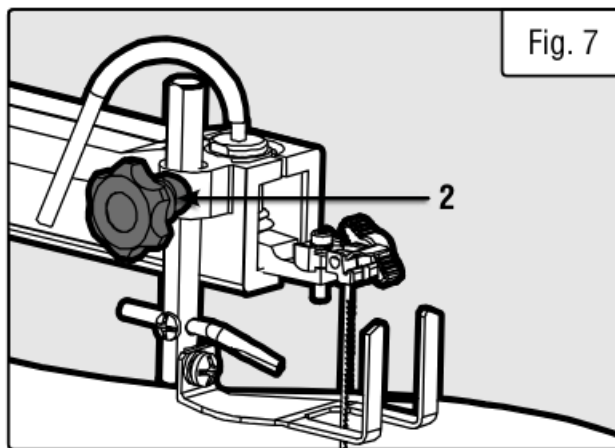

Fig. 7
2. Loosen the height adjustment knob (Fig. 7 – 1) to raise or lower the foot until it just rests on top of the workpiece. Tighten the knob.